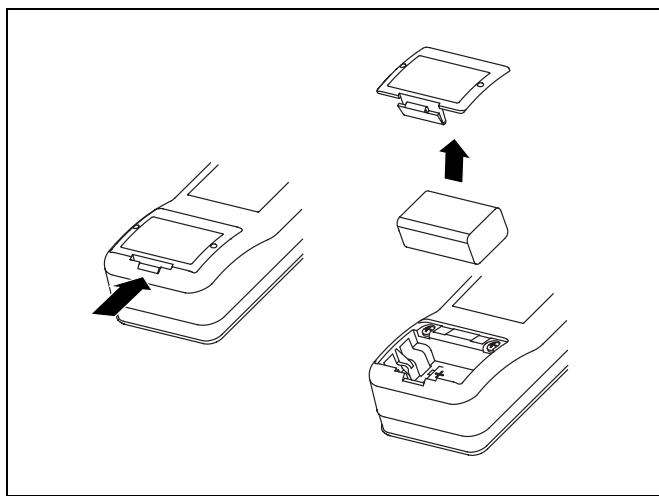

Figure 1. Replacing the Battery
1. Lift and remove the battery cover to gain access to the battery compartment. See Figure 1.